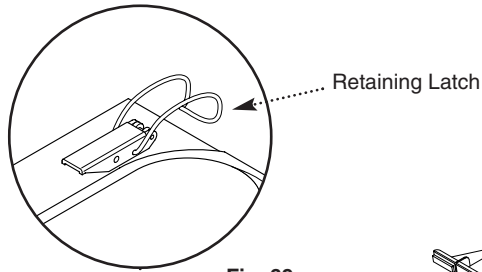

Fig. 69
4. Engage the two retaining latches and secure the right hand one with the 'R' clip previously removed (Fig 69 & 72).